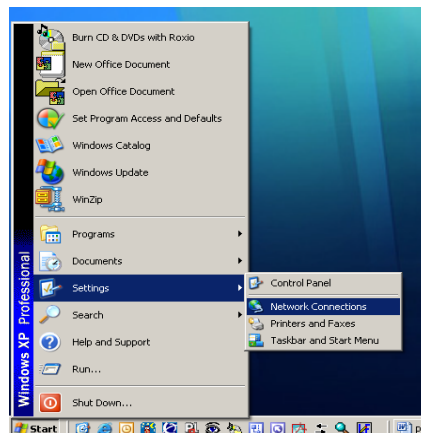

Figure B-4: Accessing the Network Connections Screen
The PC IP address and subnet mask may be configured by accessing the screens shown in Figures B-4 through B-7 on the PC as follows:
1. Click on Start>Settings>Network Connections (Figure B-4).